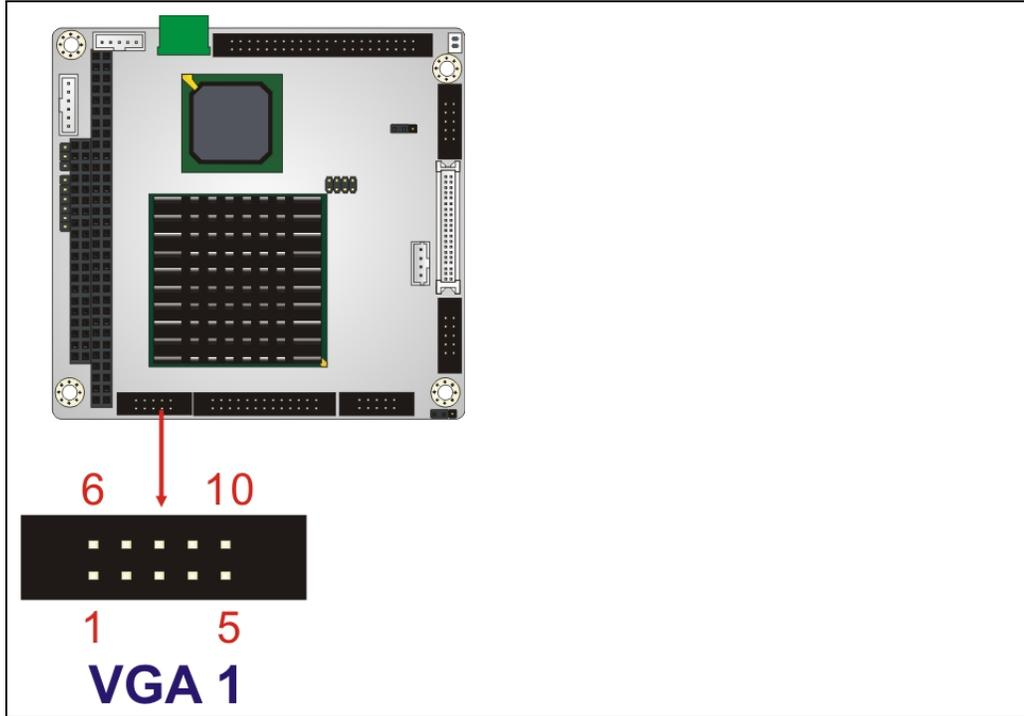

Figure 3-20: VGA Connector Location
- CN Location:** See **Figure 3-20**